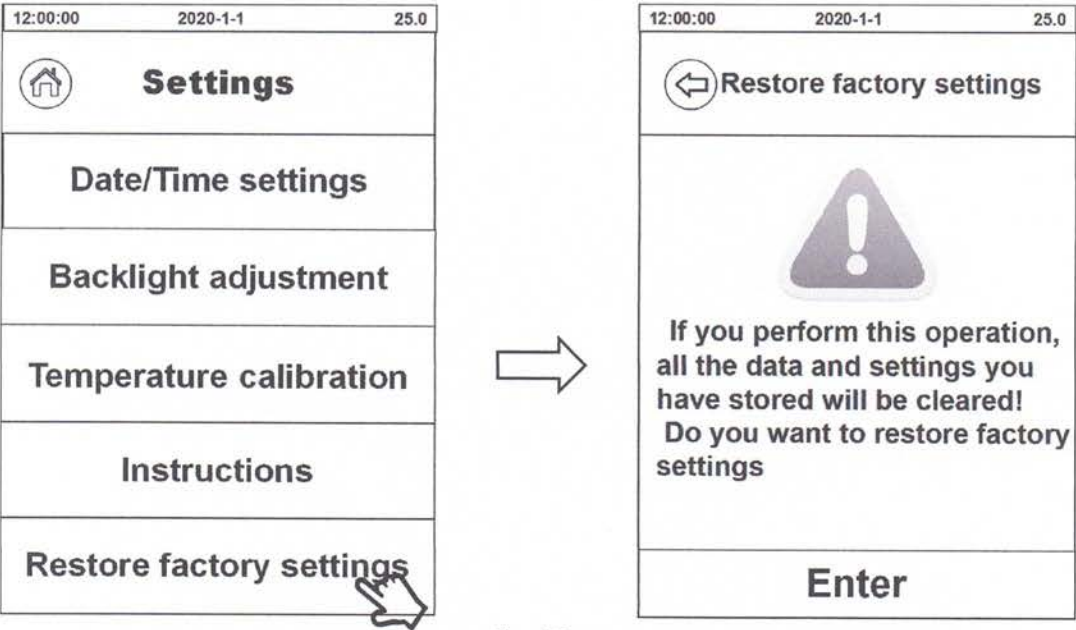

Fig. 31
- 5) Restore factory settings: Click “Restore Factory Settings”, the interface shown on the right will appear. If you click “OK” at this time, the instrument will return to the factory state, and the test records and parameter records in the internal memory of the instrument will also be cleared. (Fig.31)